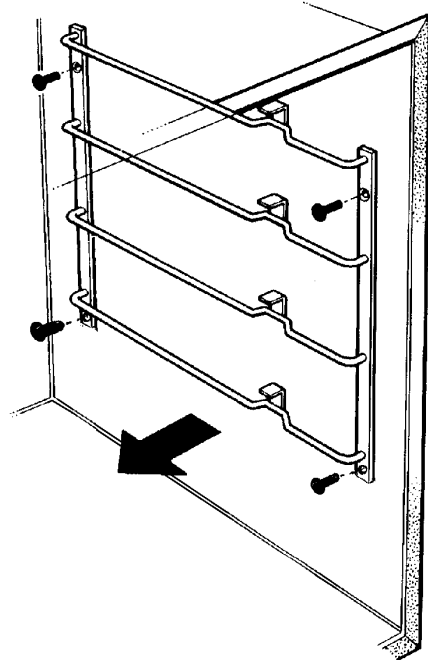

Fig. 24
3. Remove (7) back panel screws.
G. TO REMOVE GRILL LINERS - SEE FIG. 24